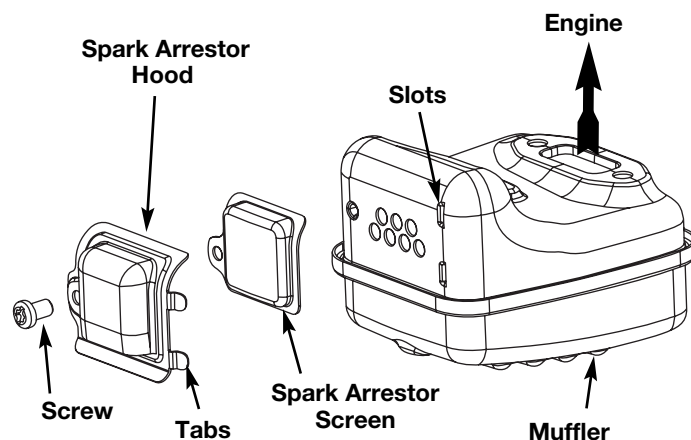

Fig. 26
2. Locate the muffler, but do not remove it. Find the screw on the bottom of the muffler (Fig. 26). Remove the screw using either a torx #20 or flat blade screwdriver.